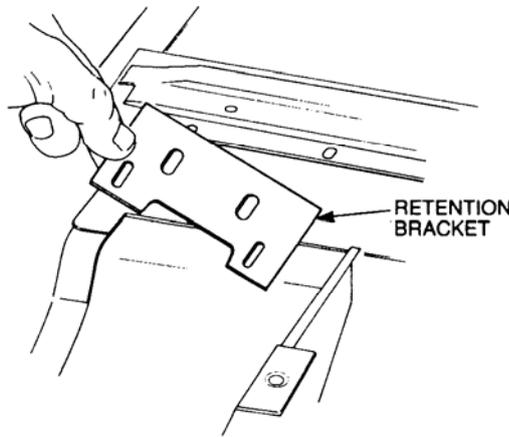

Figure 23 Quarter Window Retaining Bracket
- nn.** Remove the nuts, washers and screws securing the quarter window retention bracket to the frame (refer Figure 23).
- i. Install the quarter window retaining bracket (refer Figure 23).